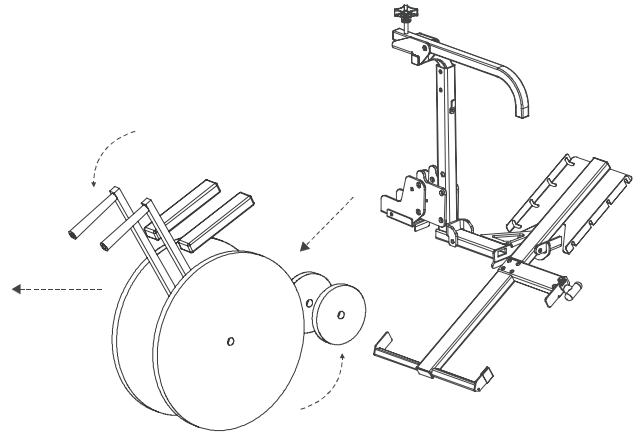

Figure 4-14
3. Push down on the wheelchair handles, tilting the smaller front wheels off of the platform. Roll the wheelchair off of the platform and rest all four wheels on the ground. *See Figure 4-14.*